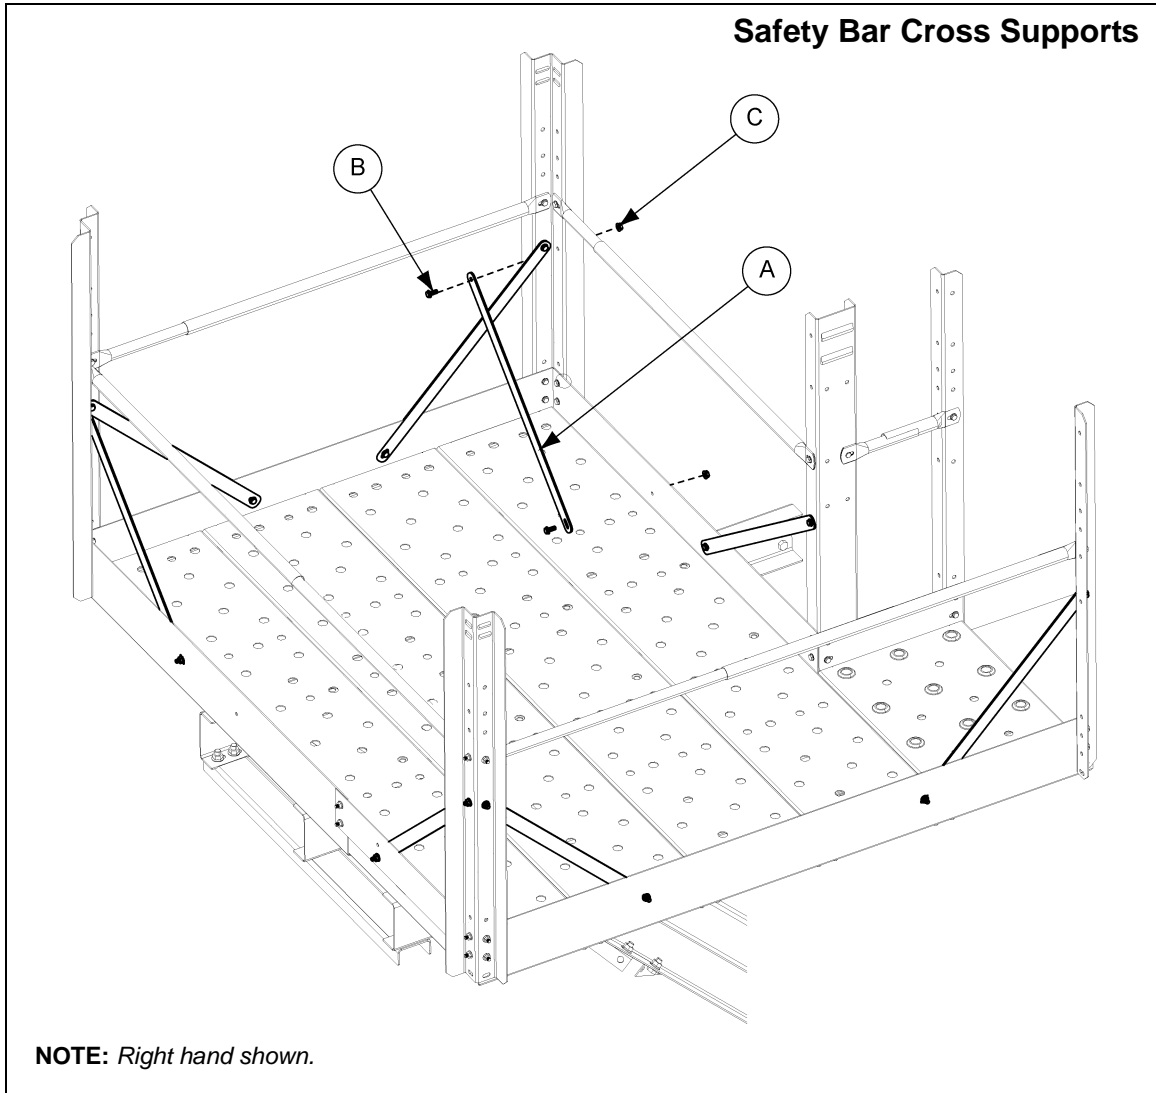

Figure 12J
1. Install safety bar cross supports from the decking toe board to the rail posts using two (2) 5/16" x 3/4" flange bolts (S-6606) (B) and nuts (S-3611) (C) per each cross bar support. (See Figure 12J.)